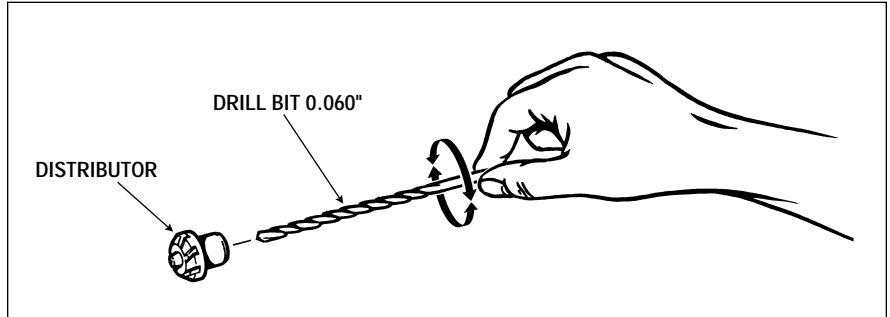

Figure 5-16 Fuel Nozzle Distributor Cleaning
- Dislodging contaminants in the distributor counterbore can be done by **lightly** hand spinning a drill bit (0.060" dia.) and then washing. See figure 5-16. DO NOT use a tip cleaner in the fuel orifice.